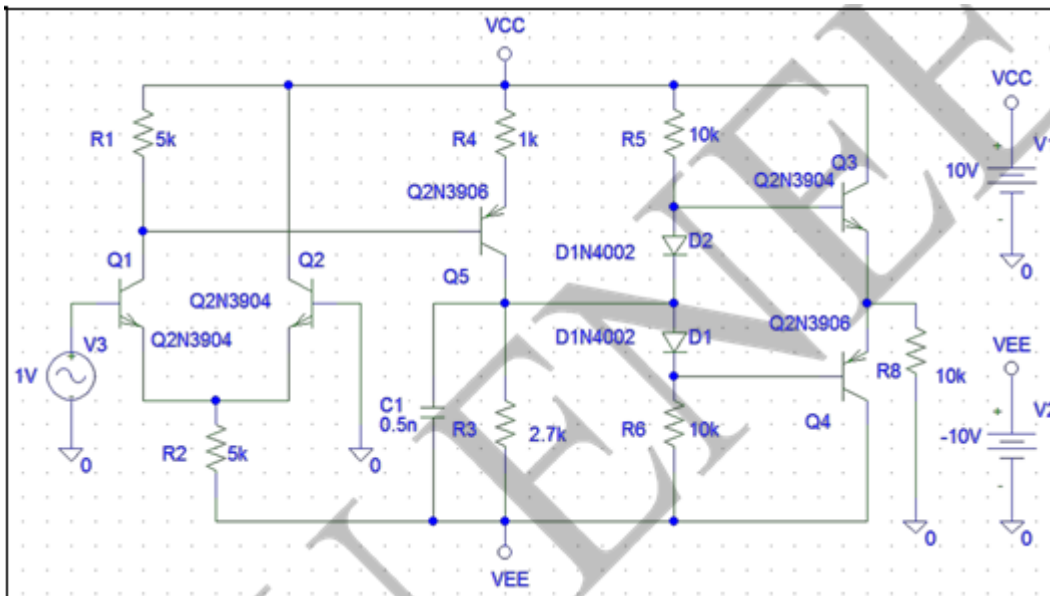

Figure 1: Open Loop Multistage Amplifier
Figure 1 and figure 2 show an open loop multistage amplifier and a closed loop multistage amplifier, respectively.
1. Simulate both circuits in Fig.1 and Fig.2 using Orcad.